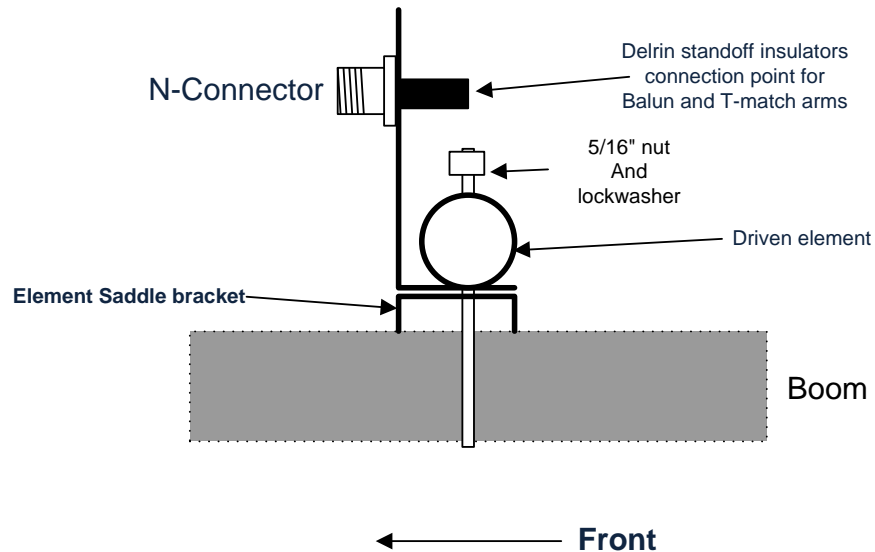

Figure 1
6. The driven element (DE) mounts the same way; however, the connector bracket sits between the element and the element to boom saddle (see Figure 1). Make sure the connector points towards the front of the antenna.